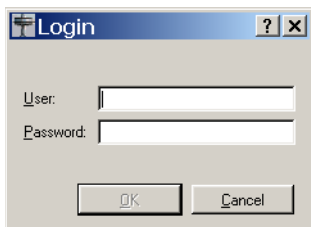

Figure 4.8 - Login request
2. A window will prompt you to log in to the database by entering a user name and password (see Figure 4.8).